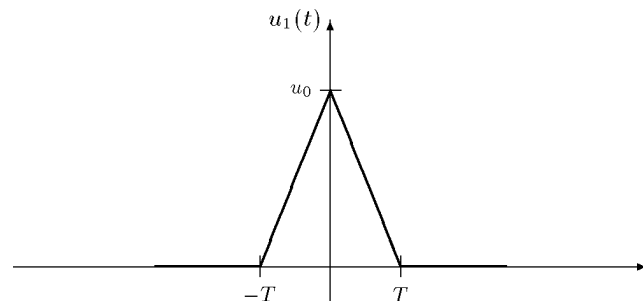

Figure 22-3: Triangular pulse
2. Triangular pulse DREIECK / TRIANGLE (see Figure 22-3)